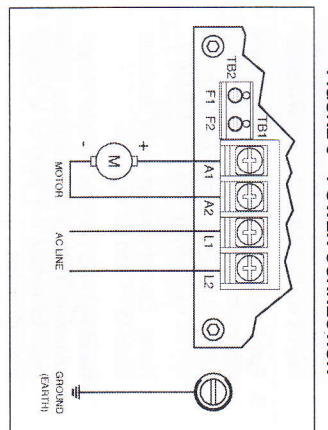

FIGURE 3 – POWER CONNECTION
- A. Power Connection** – Connect the AC line to L1 and L2 terminals of TB1 and the ground wire (Earth) to the green ground screw as shown in Figure 3, on page 6, and as described in Section IIIA, on page 6, and Section IIIB, on page 6.
- B. Permanent Magnet (PM) Motor Connection (Two-Wire Type)** – Connect the motor armature to A1 (+) and A2 (-) terminals of TB1 as shown in Figure 3, on page 6, and as described in Section IIIC, on page 6. Be sure that jumper J3 is set to the corresponding motor voltage position as described in Section IVA, on page 10. **Do not use F1 and F2 terminals of TB2 for any purpose other than to power the field of a shunt wound motor. Do not use F1 and F2 terminals for PM motors.**
Note: To avoid erratic operation, do not bundle AC line and motor wires with wires from signal following, start/stop switch, inhibit, or any other signal wires. Use shielded cables on all signal wiring over 12" (30cm). Shield should be Earth grounded on the control side only. Wire the control in accordance with the National Electrical Code requirements and other codes that may apply to your area. See Figure 3, Table 3 and Table 4, on page 7.
A. AC Line Connection – Wire AC line input to L1 and L2 terminals of TB1 as shown in Figure 3.
B. Ground Connection – Earth ground the control chassis using the green ground screw that is provided on the inside of the control to the right side of TB1 as shown in Figure 3.
C. Permanent Magnet (PM) Motor Connection – Wire the motor armature leads to A1 (+) and A2 (-) terminals of TB1 as shown in Figure 3. Be sure jumper J1 is set to the appropriate motor voltage and that J3 is set to the appropriate motor current. For step-down operation (230 Volt AC line input with 90 Volt DC SCR rated motor or 130 Volt DC PWM rated motor) set jumper J1 to "90V" position. However, in step-down operation the motor may have reduced brush life - consult motor manufacturer.